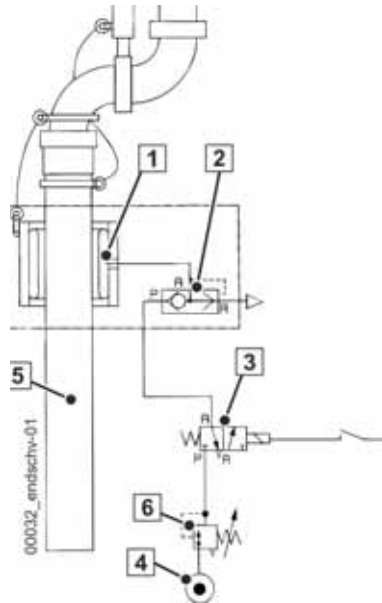

Fig. 494 Non-return valve open
In its default position, the solenoid valve (3) (**Fig. 494**) is de-energised. The compressed air supply to the shuttle valve (2) is interrupted.
The solenoid valve (3) (**Fig. 494**) is de-energised and switches to the default position: "Vent".